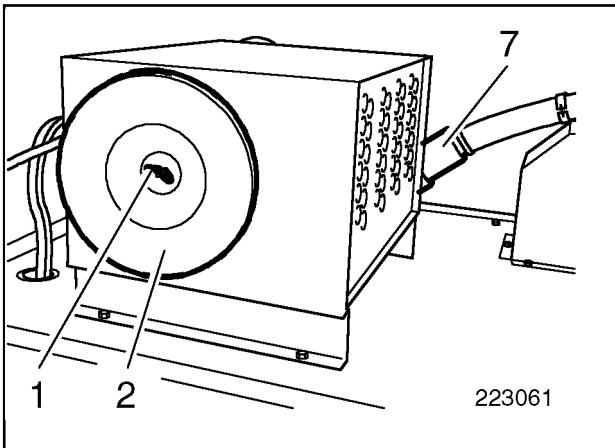

Fig. 1
The air-intake system is equipped with a dry-air filter (Fig. 1) consisting of main and safety filter element.
- Unscrew nut (1, Fig. 1) and remove cover (2).